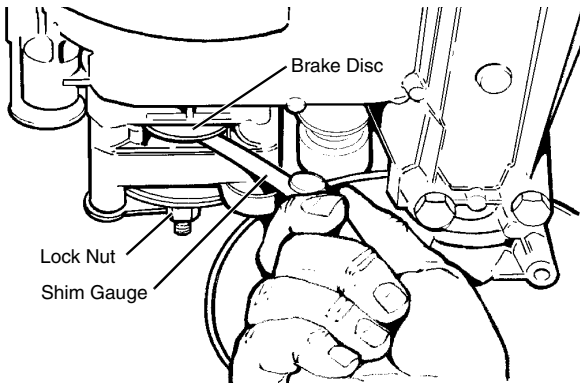

FIG. 27
- Insert a **0.25 mm (0.010 in.)** shim gauge between the disc and friction puck. (See FIG. 27) The shim should slide with slight interference.